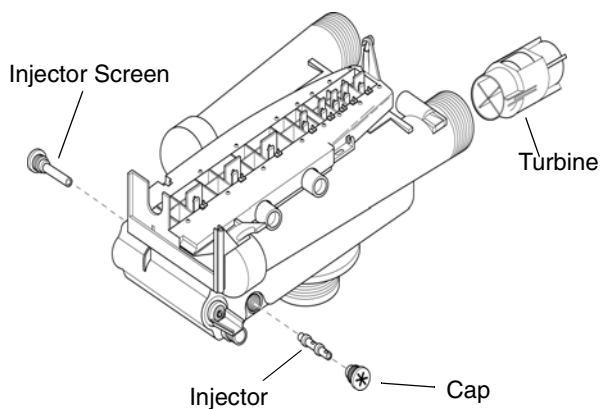

Figure 22
- Using a needle-nose pliers, remove the turbine from the outlet housing. Grasp one of the four vanes of the outer gland and pull straight out to remove turbine assembly from the outlet of the valve (Figure 22).